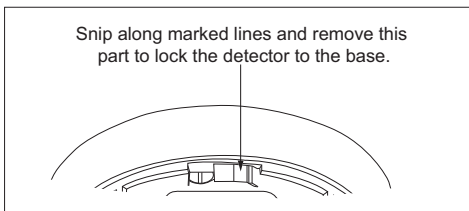

Fig 1 Locking the relay base
1. Activate the locking mechanism if the detector is to be locked into the base. To do this, remove the small portion of plastic shown in **Fig 1** with side cutters or similar tool.